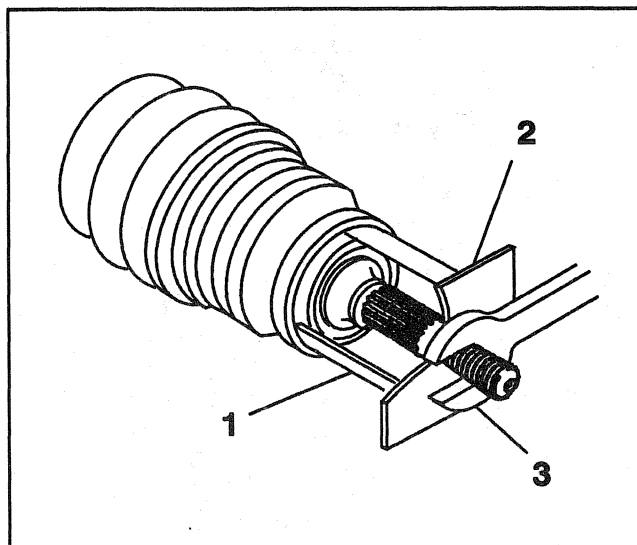

Figure 52—Installing Outer Deflector Ring
- Using a 3-inch pipe coupling (K1 and K2) or 4-inch pipe coupling (K3), a (2) fabricated sheet metal sleeve, and a M24 x 2.0 nut, as shown in (Figure 52), tighten nut until deflector bottoms against shoulder of C/V outer race.